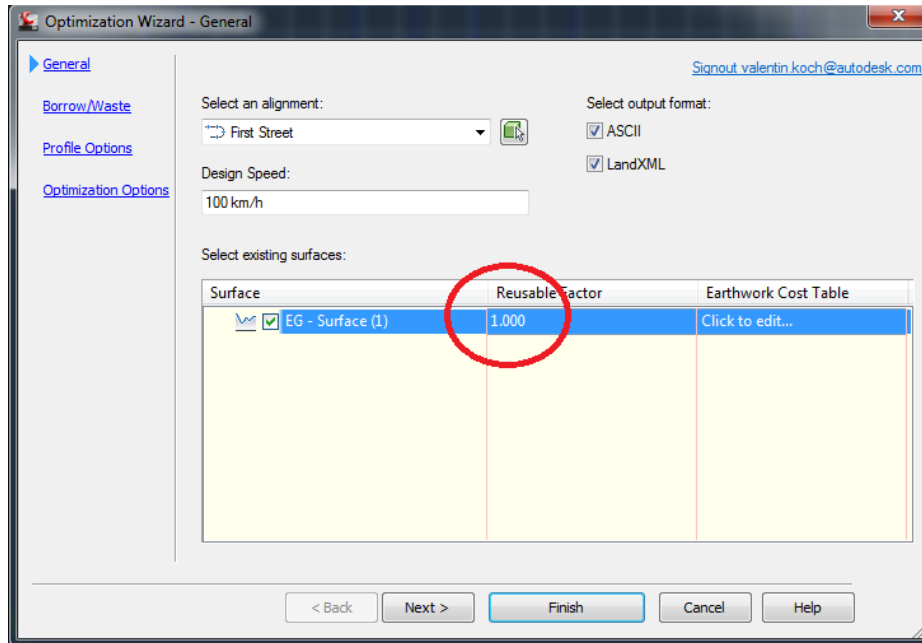

Figure 12: Reusability factor
7. Enter a reusability factor $r \leq 1.0$ (see Figure 12). The reusability factor is the percentage of material from the selected ground layer that can be re-used for earthwork fill operations. For example, if we have two different ground layers, *overburden* and *rock*, we can set the factor for overburden to 1.0, and for rock to 0.5. This means that 100% of overburden material from a cut can be re-used in fills. However, only 50% of rock from a cut can be used in fills.